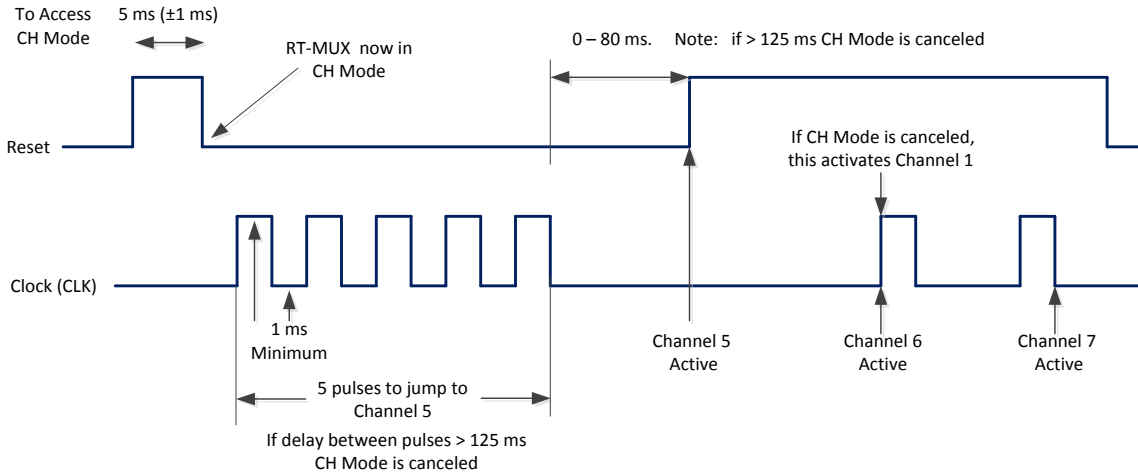

Figure 6: CH-MODE RESET & CLOCK TIMINGS
Controlling the RT-MUX in CH-MODE requires some special timing sequences from the datalogger's digital output ports. See Figure 6
8. Channel 5 is activated and measurement can begin, as shown in figure 6 above